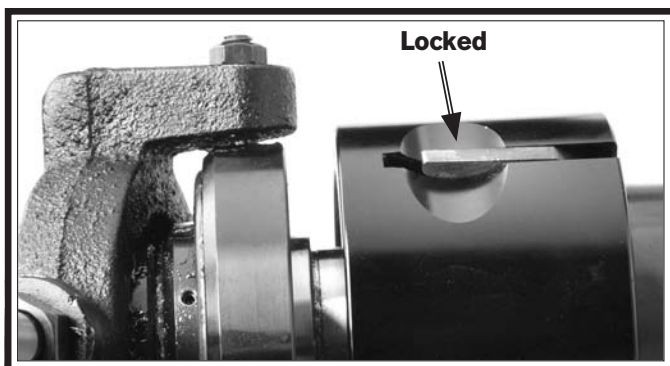

Figure 13. Chuck sleeve thumb lever locked.
23. Push the thumb lever back into its locked position (**Figures 13–14**), so it is horizontal with the chuck sleeve surface. You may have to rotate the chuck sleeve slightly to get the lever to drop back down into a lock ring slot.